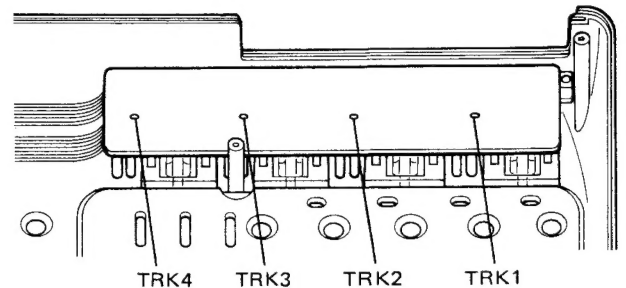

Fig. 9-2 VU Meter Adjustment
- Make adjustments with a minus driver from the rear of METER PCB (Fig. 9-2).